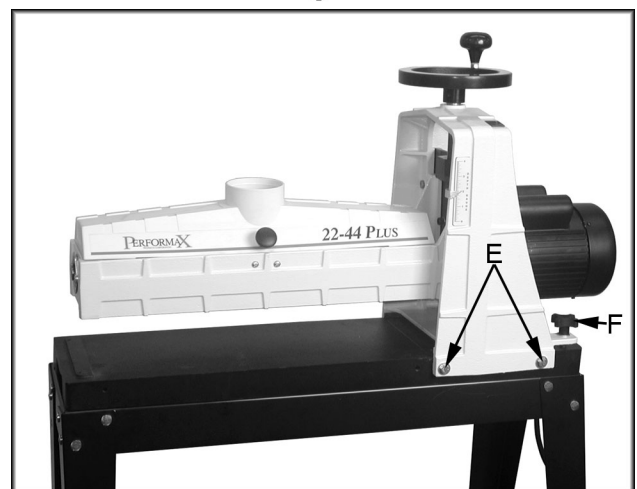

Fig. 5
1. Loosen the four hex cap bolts (E, Fig. 5) two in front and two in back.
3. Adjust the knob, (F, Fig. 5) until drum contacts the gauge equally along its surface. Turn the adjusting knob clockwise to raise